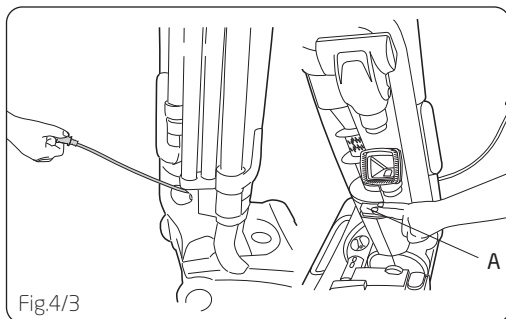

Fig.4/3
To return cord for storage, hold plug and press on button (A) at top of cord reel (Fig.4/3).